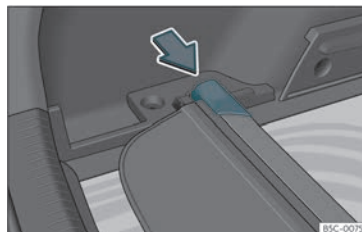

Fig. 112 In the luggage compartment: space to store the retractable shelf.
- Press the head of the retractable shelf in the direction of the arrow until it engages in its housing»» Fig. 112.